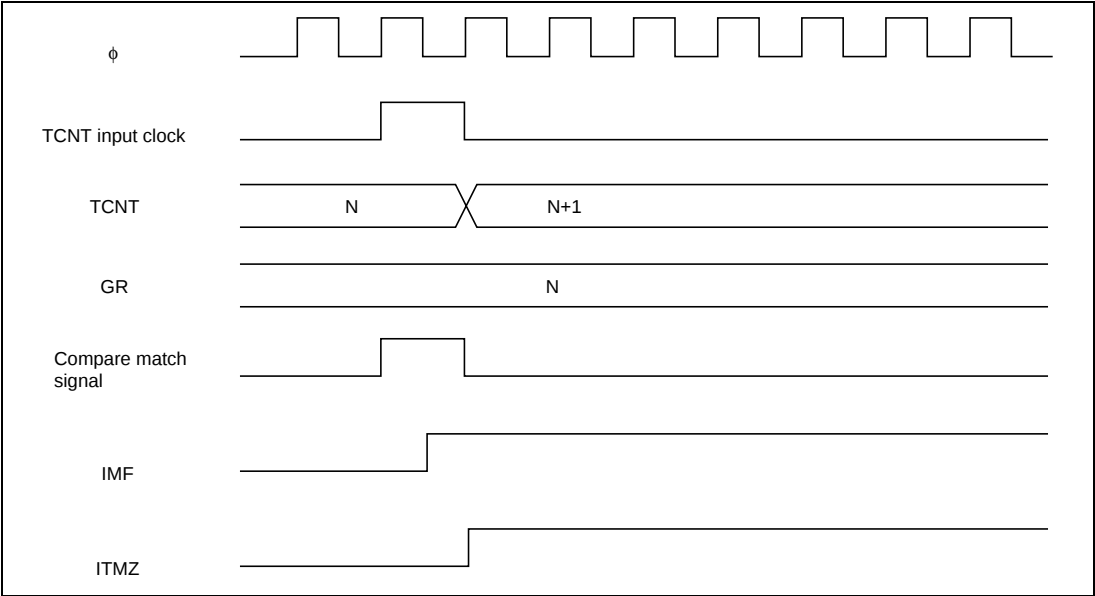

Figure 13.48 IMF Flag Set Timing when Compare Match Occurs
- 1. IMF Flag Set Timing: The IMF flag is set to 1 by the compare match signal that is generated when the GR matches with the TCNT. The compare match signal is generated at the last state of matching (timing to update the counter value when the GR and TCNT match). Therefore, when the TCNT and GR matches, the compare match signal will not be generated until the TCNT input clock is generated. Figure 13.48 shows the timing to set the IMF flag.